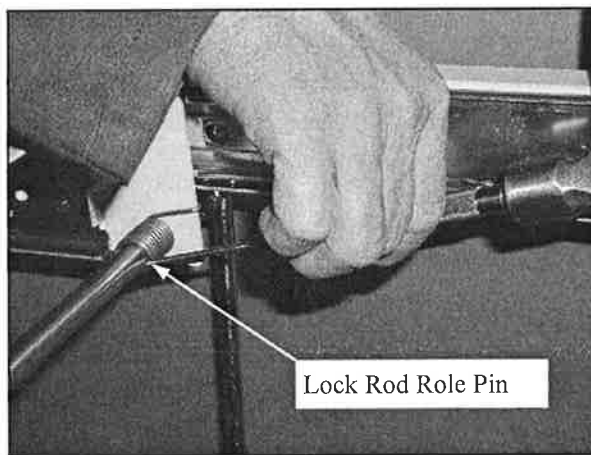

Figure 3
- 4) After removal of the foot section lock handles, rotate the lock rod such that the pins holding the 90 degree tail of each of the two torsion springs are horizontal to the ground. Extend the debris tray a few inches to provide clearance for removing the torsion spring split pins. Using the 1/8" punch and hammer, again drive the pins out, (Figure 3).